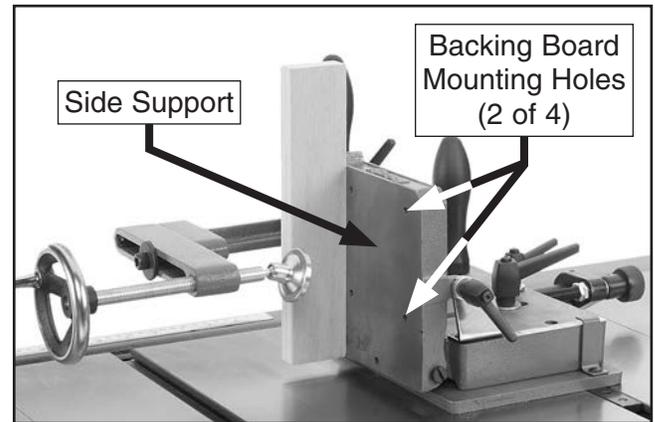

Figure 25. Mounting holes for side support backing board.
- Cut a backing board approximately 5" wide by 9" tall out of a piece of 3/4" plywood, then mount it to jig side support using either wood screws through back of support or recessed cap screws and hex nuts through front of backing board (see **Figures 25–26**).